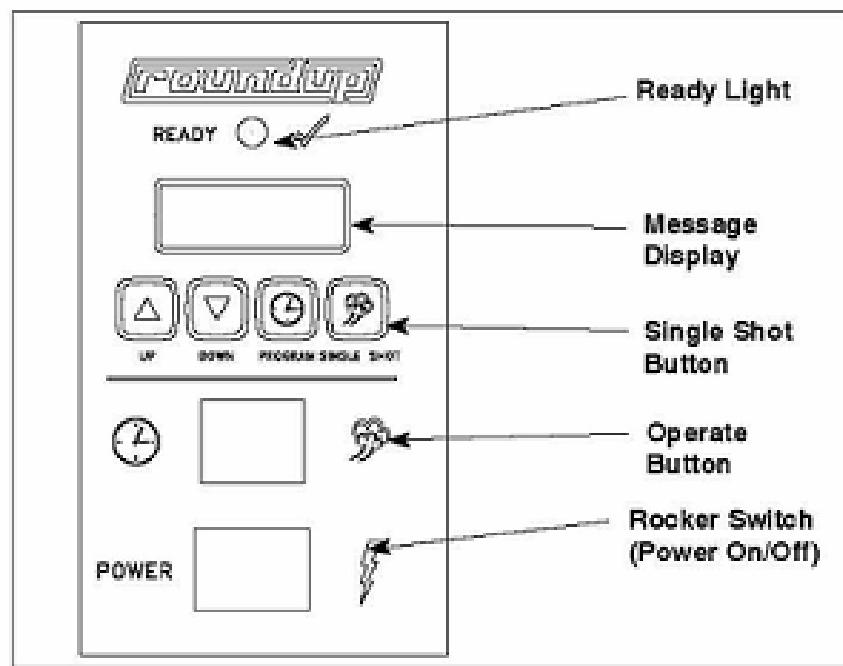

Figure 5b. Operating Controls
When the Single Shot button (Figure 5b) is pressed, power is supplied to the solenoid valve. The solenoid operates and water sprays onto the heated steam generator. The water flashes immediately into live steam and shoots down onto the product.
1. Turn the Rocker Switch (power On/Off) to ON (Figure 5b).